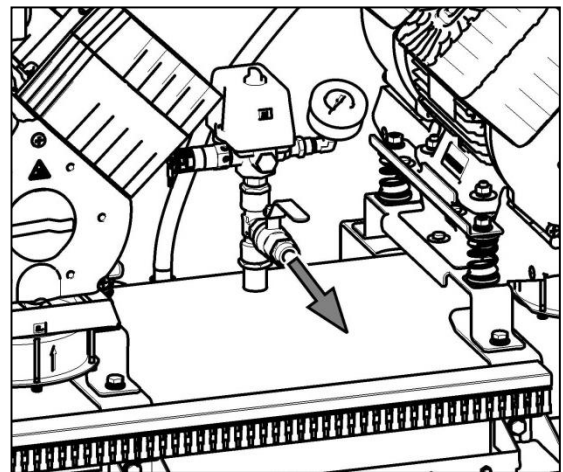

Fig. 9
- A G1/2" female threaded end ball valve is installed on the compressed air outlet from the air tank (Fig. 9)